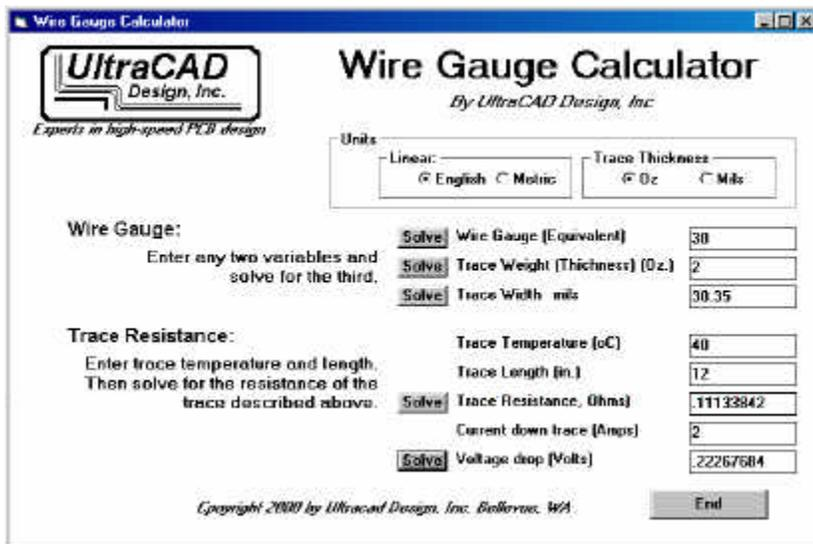

Figure 3
**Calculator:** All these calculations are straightforward, but tedious. UltraCAD has put together a free-ware calculator that does all these calculations for you. **Figure 3** illustrates the calculator. It can be obtained from the UltraCAD website at [www.ultracadm.com](http://www.ultracadm.com). The calculator allows you to calculate any one of the equivalent wire gauge for a trace, its thickness, or its width, given the other two variables; the trace resistance given its length and temperature; and then the voltage drop along the trace given the current.